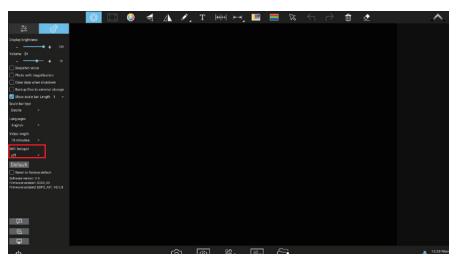

Figure 1
- (1) Click the "⚙️" setting icon in the upper left corner of KoPa WiFi Lab AO;
- (2) Click the icon "⚙️" ;
- (3) Click the icon "📶" at the bottom left, Open WLAN (as in Figure 1 and 2);